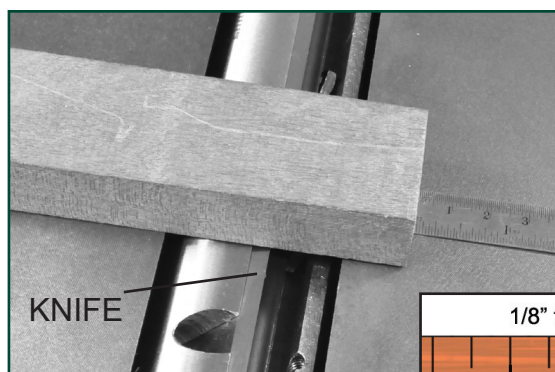

FIG. 36
1. Place the straight edge at either side of the cutterhead, resting on both feed tables. FIG. 36.